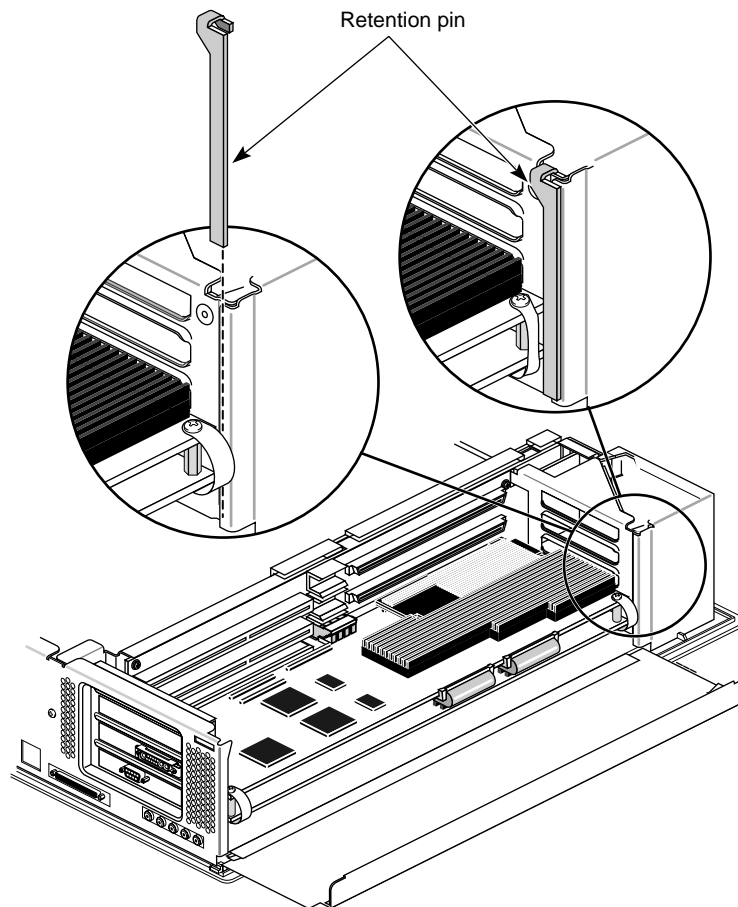

Figure 4-20 Removing the Retention Pin
6. Remove the retention pin, as shown in Figure 4-20.